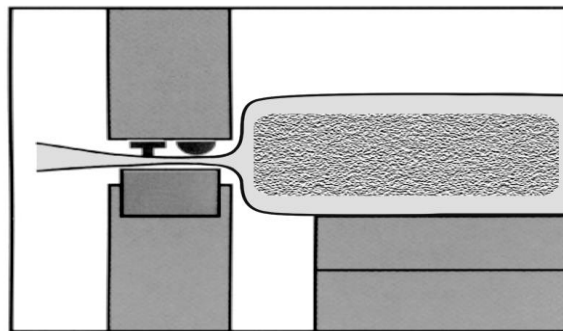

Fig. 3 – Bag sealing zone
- Bring the bag containing the product in the vacuum zone. The product inside the bag should be as close to the heat-sealing bar as possible (Fig. 3), to improve the appearance and ensure the tight envelopment of the product.